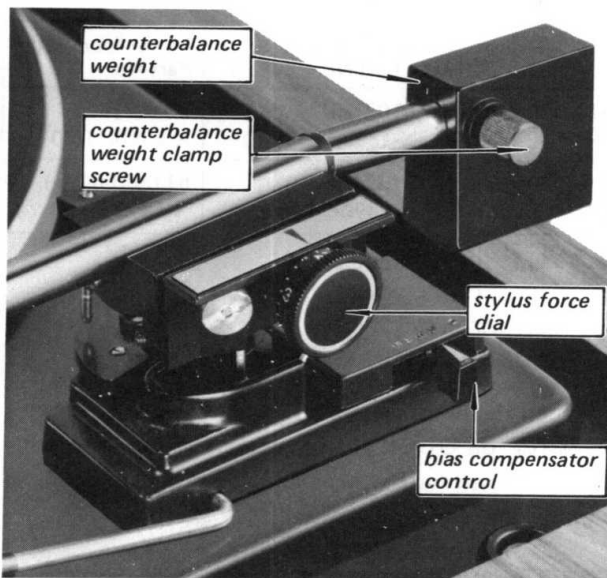

Fig. 2-1. Stylus force adjustment
4. Loosen the counterbalance weight clamp screw (see Fig. 2-1) and slide the counterbalance weight to position which balances the tonearm with the stylus tip about 3 mm ( $1/8''$ ) above the turntable mat.
Move the bias compensator control shown in Fig. 2-1 along its scale to the figure which corresponds to the previously-set figure for stylus force.